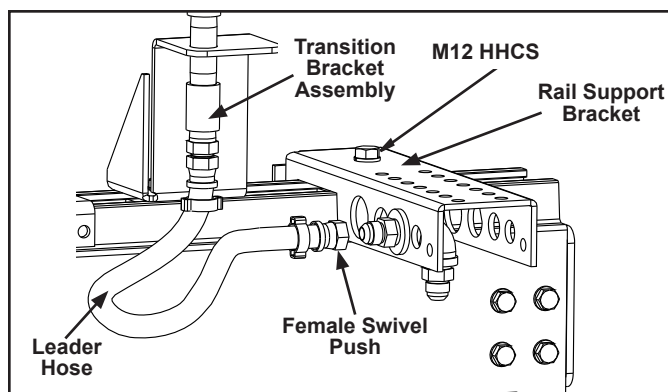

Figure 3-121
- Step 2. Tighten M12 HHCS to secure support bracket to bridge top rail channel. See Figure 3-121.